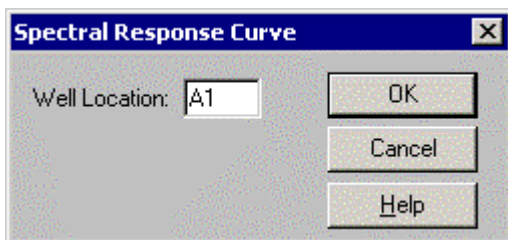

Figure 4-11 The Spectral Response Curve Dialog Box
**Spectrum** is used to produce a spectral response curve for a specified well and suggests appropriate test and reference filter wavelengths. When this option is selected, the *Spectral Response Curve* dialog box (Figure 4-11) is presented.